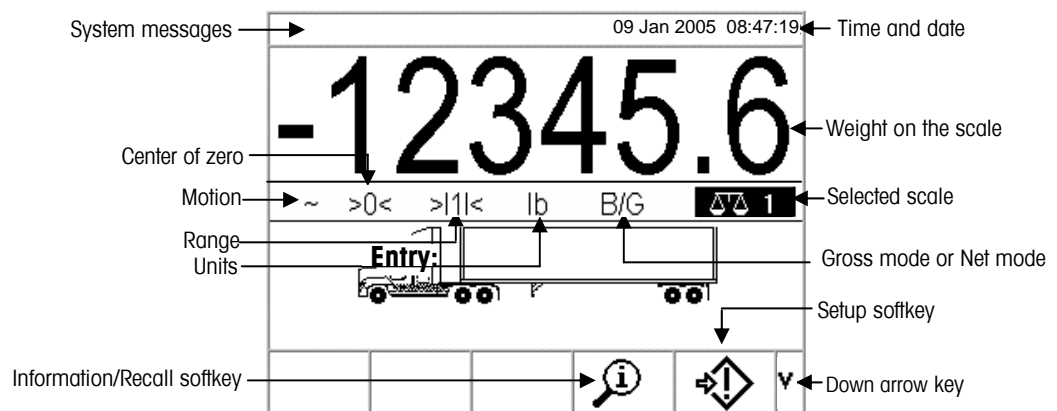
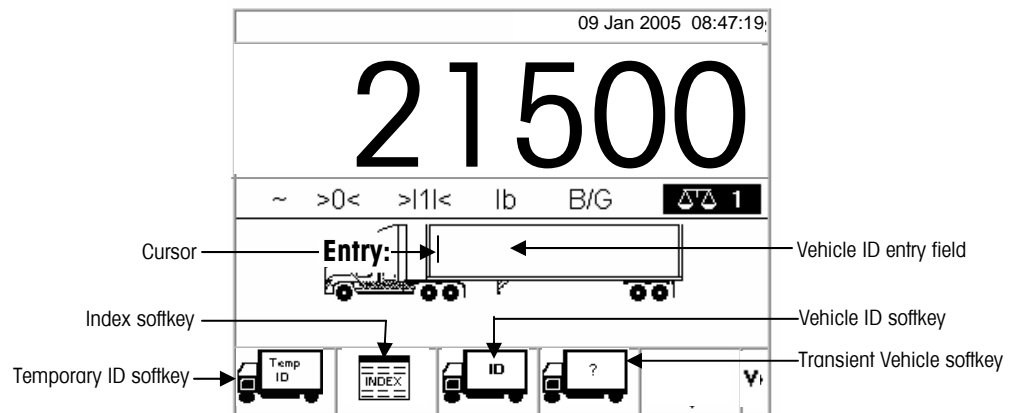

Figure 2-6: Default Vehicle ID Weighing Operation Screen
Figure 2-7: Default Weight Screen
The default screen can be configured to display No Vehicle Application, Vehicle ID, or Temporary ID as the default weighing mode. At power up, when exiting setup, or upon completion of a transaction the IND310drive will automatically display the input screen associated with the selected default auto start mode. (See Chapter 3.0, Configuration, Application, Vehicle Weighing for information about how to configure the default auto start mode.) Figure 2-6 shows an example of a Vehicle ID Weighing default screen.
1. From the default weight screen (Figure 2-6) press the DOWN arrow key to display all available softkeys (see Figure 2-7).
1. Once the vehicle is on the scale, press the TEMPORARY ID softkey (see Figure 2-7). If enabled in the Temporary ID setup, an automatic ID number between 001 and 999 displays, which can be used as the Temporary ID. (See Chapter 3.0, Configuration, Application, Vehicle Weighing, Database for information about enabling the automatic ID numbering in the Temporary ID Table.) To use the automatic number as the ID, press ENTER. To enter more detailed information: